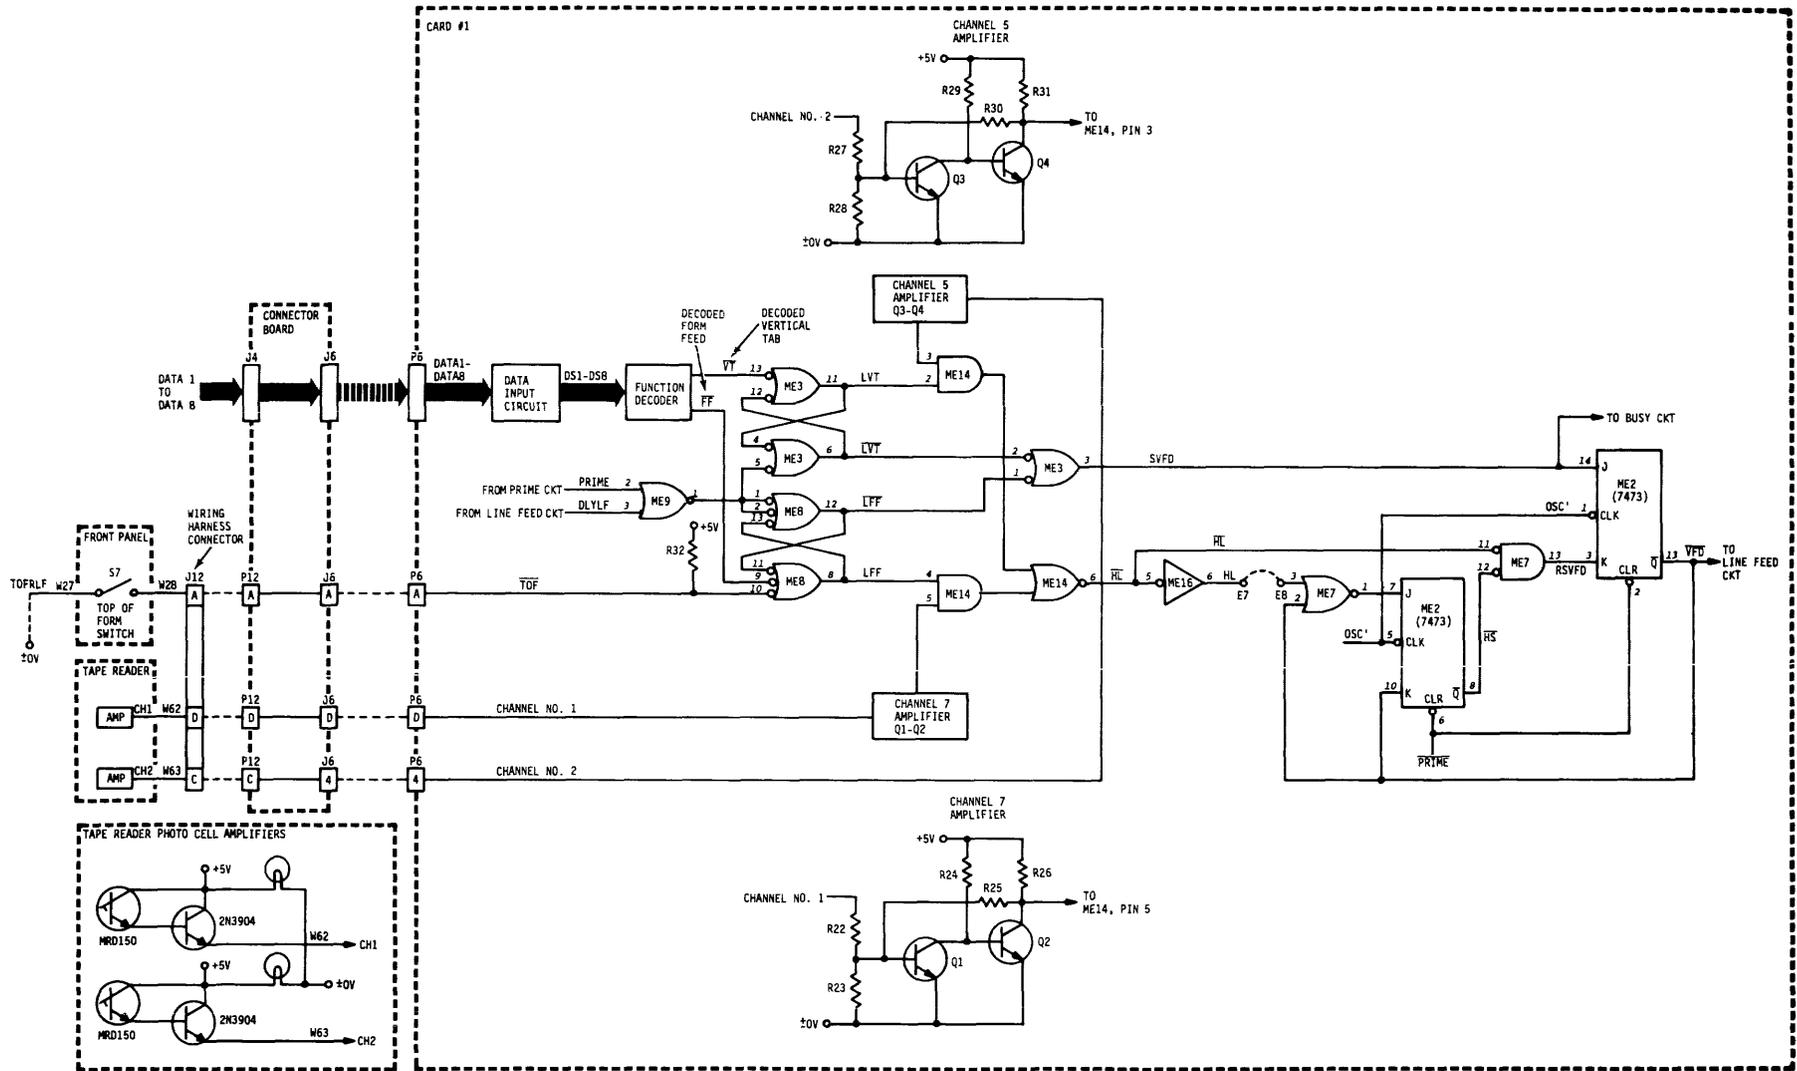
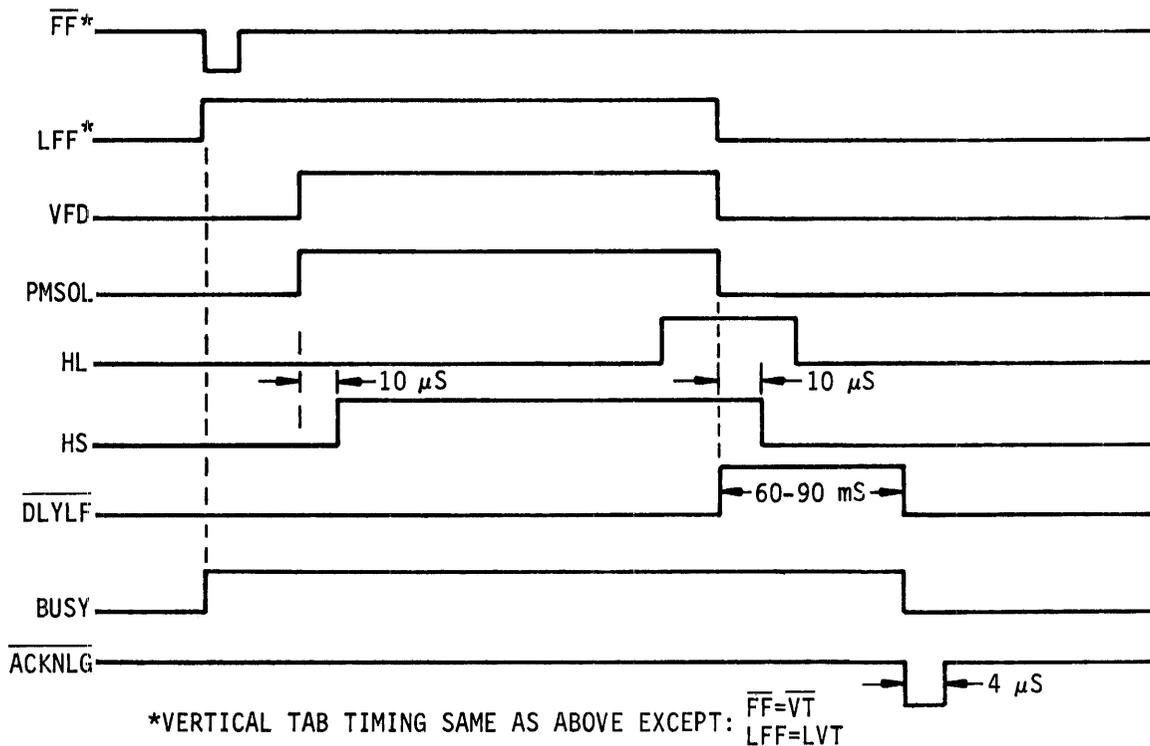

Figure 4-23. FORM FEED AND VERTICAL TAB CIRCUIT
Figure 4-24 FORM FEED AND VERTICAL TAB TIMING
4.6.2 FORM FEED (Figure 4-23, Circuit; Figure 4-24, Timing)
4.6.3 VERTICAL TAB (Figure 4-23, Circuit; Figure 4-24, Timing)
4.6.4.1 Vertical Format Control Tape Reader (Figure 4-23)
4.6.4.2 Vertical Format Control Amplifiers (Figure 4-23)